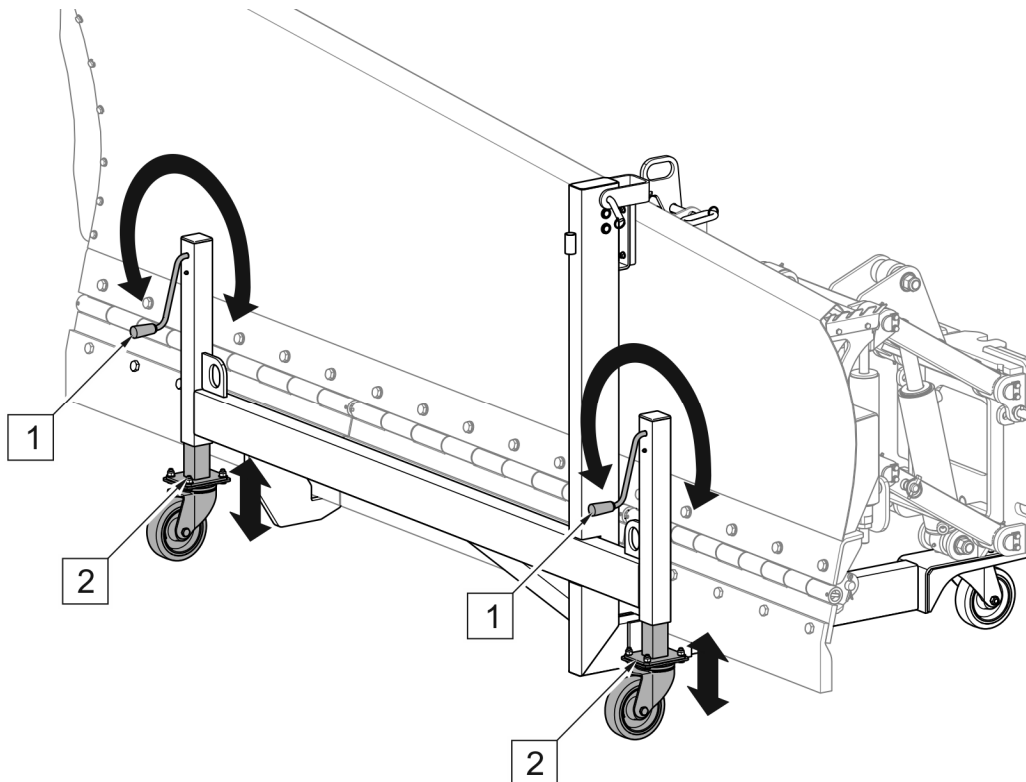

FIG. 4.2 Cart adjustment
(1) - support height adjustment crank; (2) - support with a wheel
The cart (FIG. 4.2) has two height-adjustable supports with wheels (2). When mounting the plough on the carrier vehicle, in order to adjust the inclination of the linkage to the connection plate, use the crank (1) to adjust the height of the appropriate support (2).